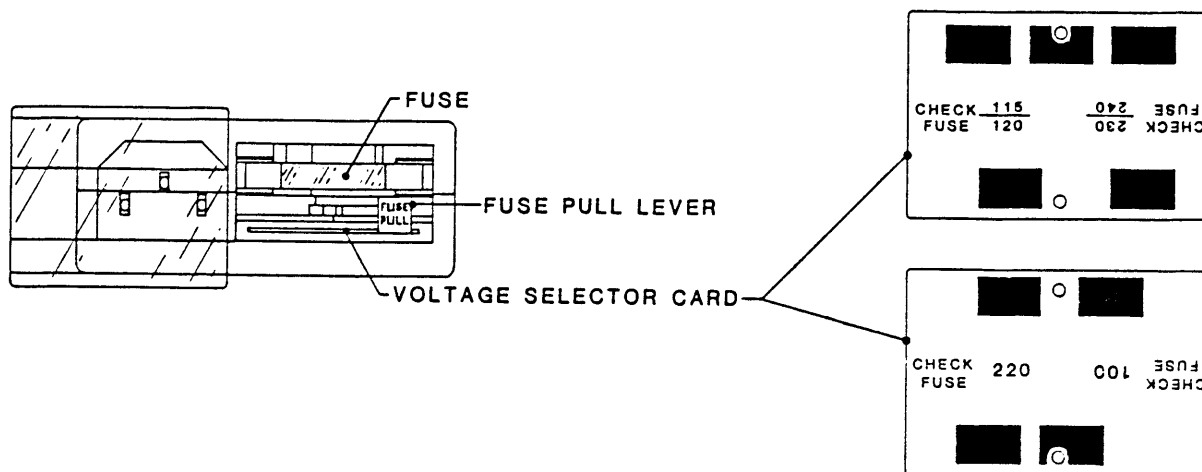

Figure 2-9. Power-In Assembly
The Drive is normally factory-set for 120-volt operation. Other voltage choices can be 100, 220, or 240. Locate the Power-In Assembly (Figure 2-9) at the rear of the unit (Figure 2-6). The Voltage Selector Card behind the plastic slide cover is installed with "120" legible. This indicates that the Drive is set for 120-volt operation. The following subparagraph describes changing this setting as necessary.
- A. Remove the ac power cord (if installed) from the Power-In Assembly (Figure 2-9).